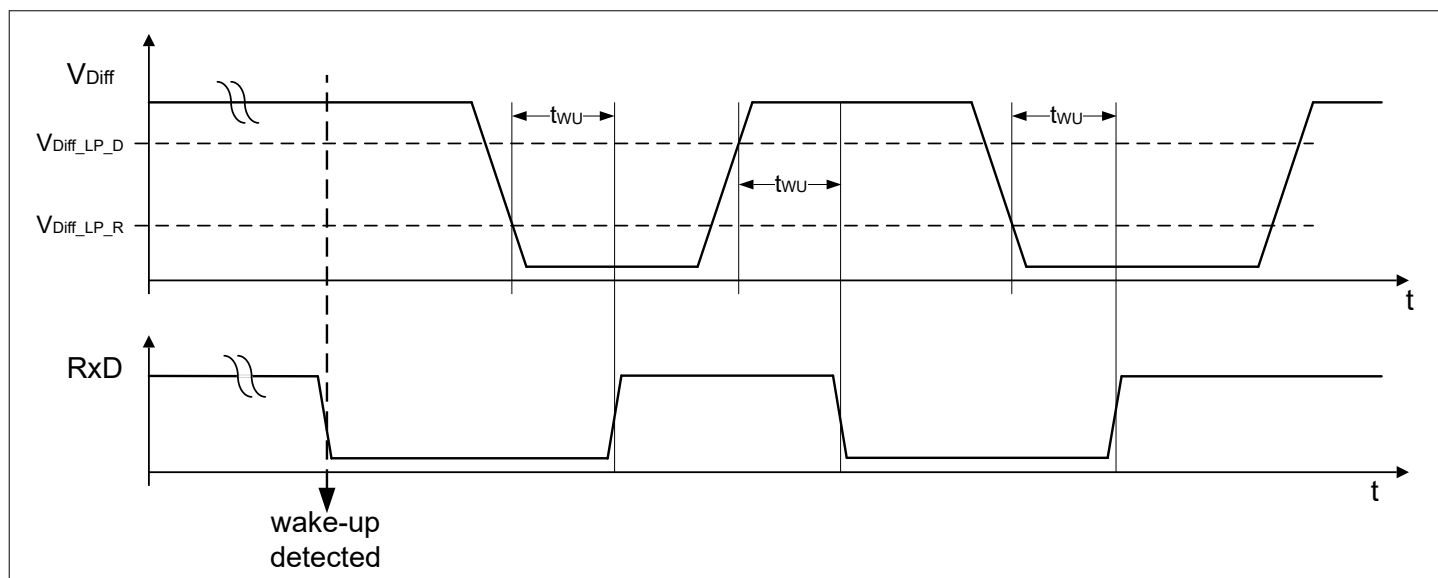

Figure 7 RxD signal after wake-up detection
- The low power receiver is enabled and monitors the HS CAN bus for a valid wake-up pattern (WUP). The RxD output pin indicates the detection of a valid wake-up pattern (Chapter 5.4). As long as no wake-up event is detected, the default of the RxD output is "high". After detecting a wake-up, the RxD follows the bus with a certain delay (see Figure 7).
After the device detects a wake-up event the RxD output follows the CANH/CANL input pins. Dominant and recessive signals are indicated on the RxD output as "high" and "low" with the delay of t_{WU} as long as their pulse width exceeds the filter time t_{Filter} (see also Figure 7).